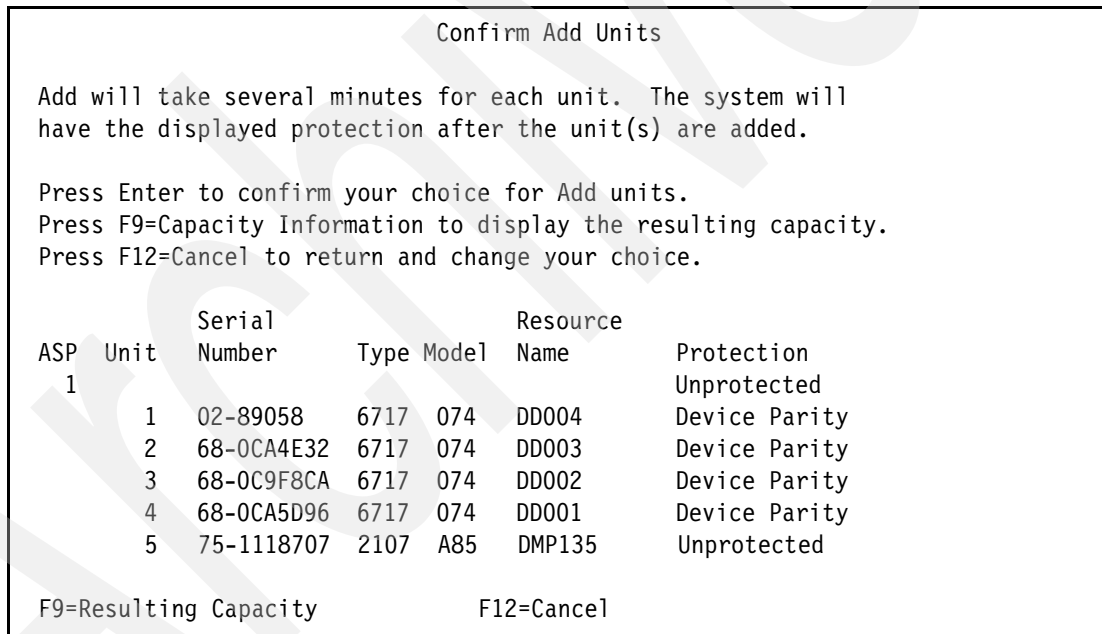

Figure 5-38 Confirm Add Units panel
- On the Confirm Add Units panel (Figure 5-38), check the configuration details. If the details are correct, press Enter.